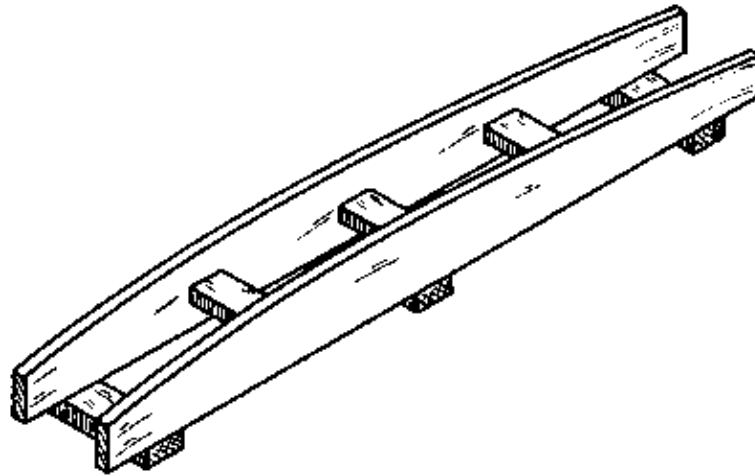

Fig. 2
– Two wooden planks or sheets of plywood are connected by spacers, so that the archstones are supported on their outer edges (Fig. 2). Both turning pieces must be precisely cut and planed to the same shape, and must match with the curve of the intrados.